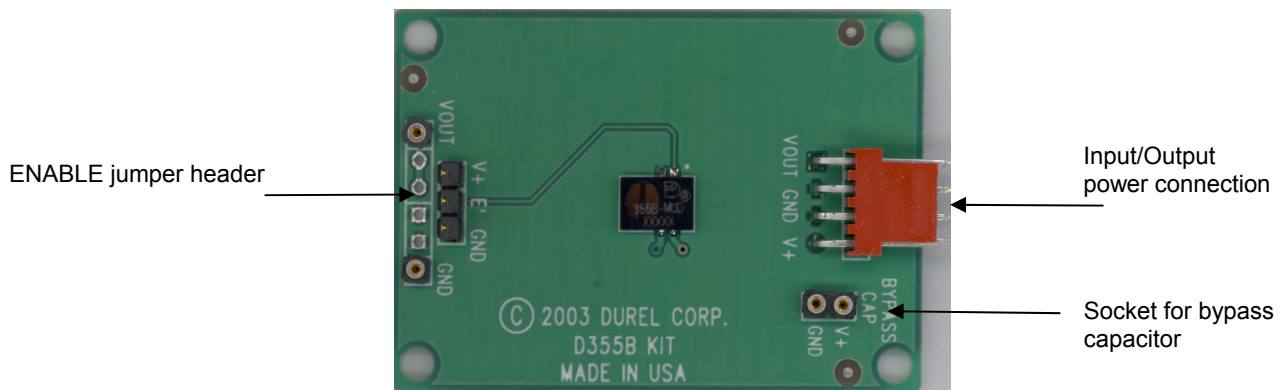

Figure 1: The D355B Module IC Designer's Kit Board
The Designer's Kit Board (see Figure 1), which comes with a D355B Module IC already soldered to the board, is a useful tool for powering a D355B Module IC driver circuit for any application. A jumper header on the Designer's Kit Board is normally attached to connect E to V+ or GND. This jumper header can be removed to control the enable pin (E) with an externally supplied signal. Make sure that an appropriate load is connected between the output (Vout) and GND before applying power to the chip through the Designer's Kit Board power connections.